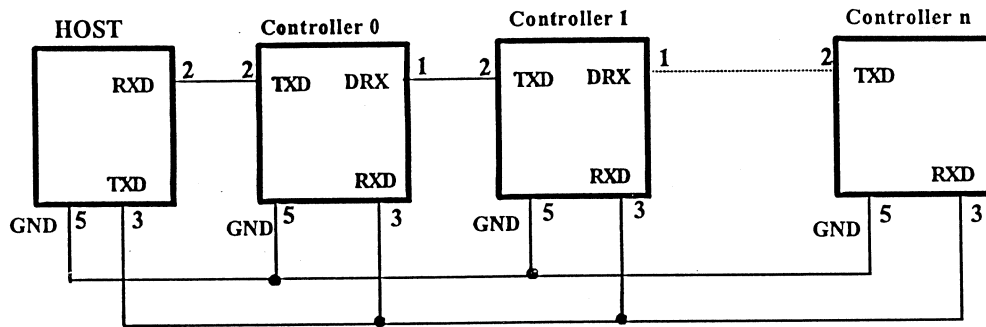

Figure 4.1 Daisy-Chain Connection A
The MAC-300 Controllers are designed so that Multiple Controllers can be linked to a single Host Computer(PC) by using a Serial Daisy-chain via the RS-232 port. There are two different types of Daisy-Chain connections. Figure 4.1 shows the first connection which is ideal when the number of Controllers is less than 16. In this configuration the Host PC can simultaneously call all of the Controllers. Even if one of the Controllers is out of order, such as in the case of a power failure, the command from the Host PC can be sent to all of the other Controllers.